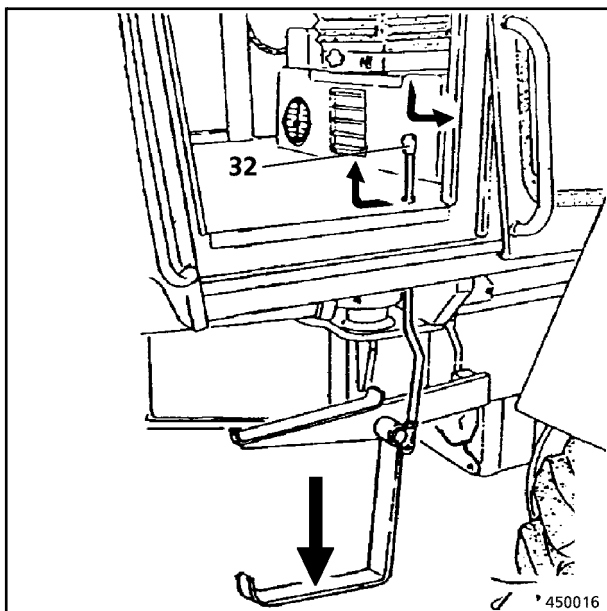

Fig. 2
The lowest step of the access ladder to the driver's cab can be raised or lowered (Fig. 2) by means of the foot-operated lever (32).